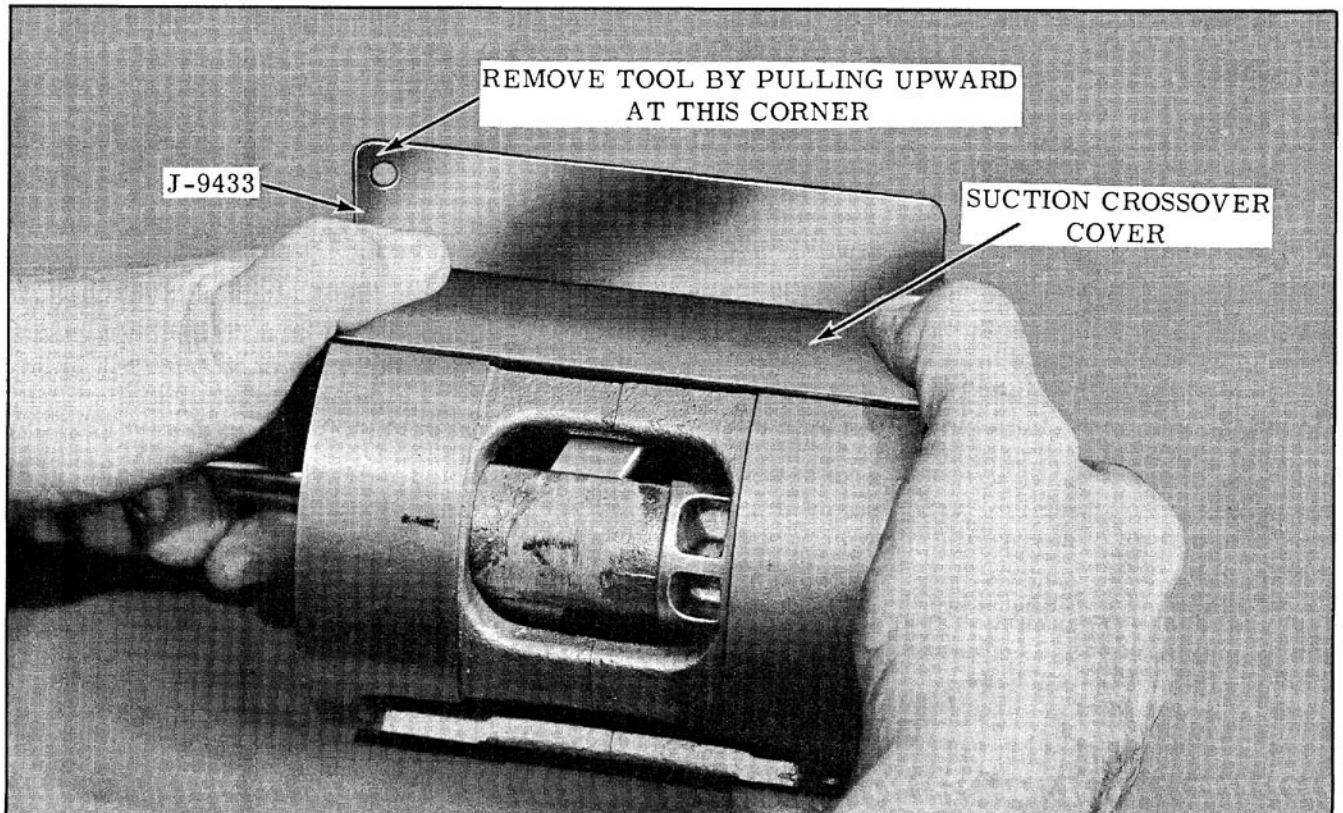

Fig. 14-123 Installing Suction Crossover Cover and Seal
24. Assemble a new rectangular gasket to the suction crossover cover. Coat the gasket with Frigidaire 525 Viscosity Oil. Start one side of the gasket and cover into the "dove tail" slot in the cylinder. Position Tool J-9433 between the gasket and the "dove tail" slot. Center the cover and gasket with the ends of the cylinder faces. Press down on the cover to snap it into place and remove tool. (Fig. 14-123)